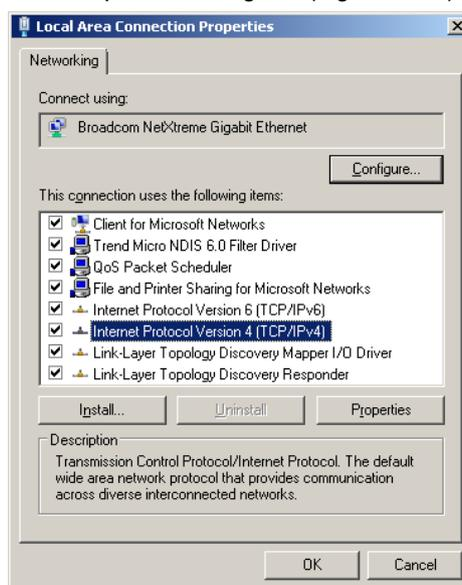

Figure 1.3-2 Local Area Connection 2 Properties dialog box
- (3) Confirm that the network card used to connect to the C1 controller appears in the name field in the Network Connections dialog box (Figure 1.3-1). After confirming that the network card is registered, right click on its name. Select "Properties" from the popup menu. If the "User Account Control (UAC)" dialog box appears, click [Continue] button. The "Local Area Connection 2 Properties" dialog box (Figure 1.3-2) will appear.
- (4) Select “Internet Protocol Version 4 (TCP/IPv4)” on the “Local Area Connection 2 Properties” dialog box (Figure 1.3-2). Then, select “Properties.”